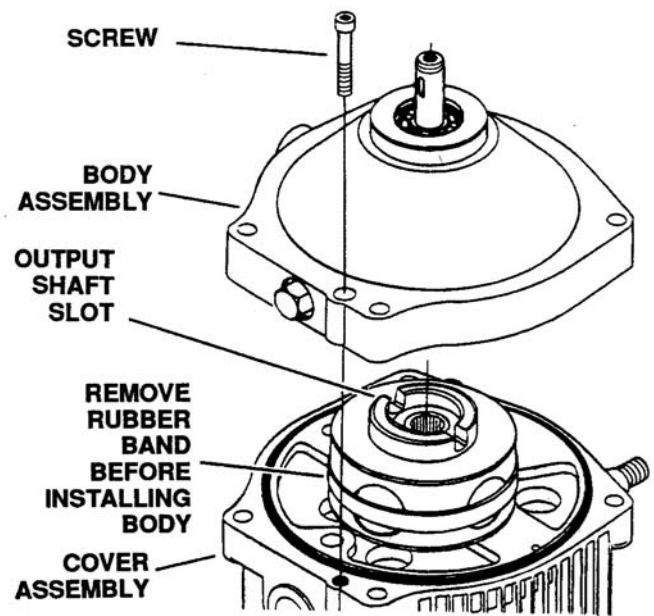

Figure 6-137. Body Installation
30. Install the body by aligning the output shaft with the bearing located in pintle and shaft cross pin with the slot in the motor rotor assembly. Install two 5/16 x 1-1/4 socket head cap screws. Torque to 15 ft-lbs. See Figure 6-137.